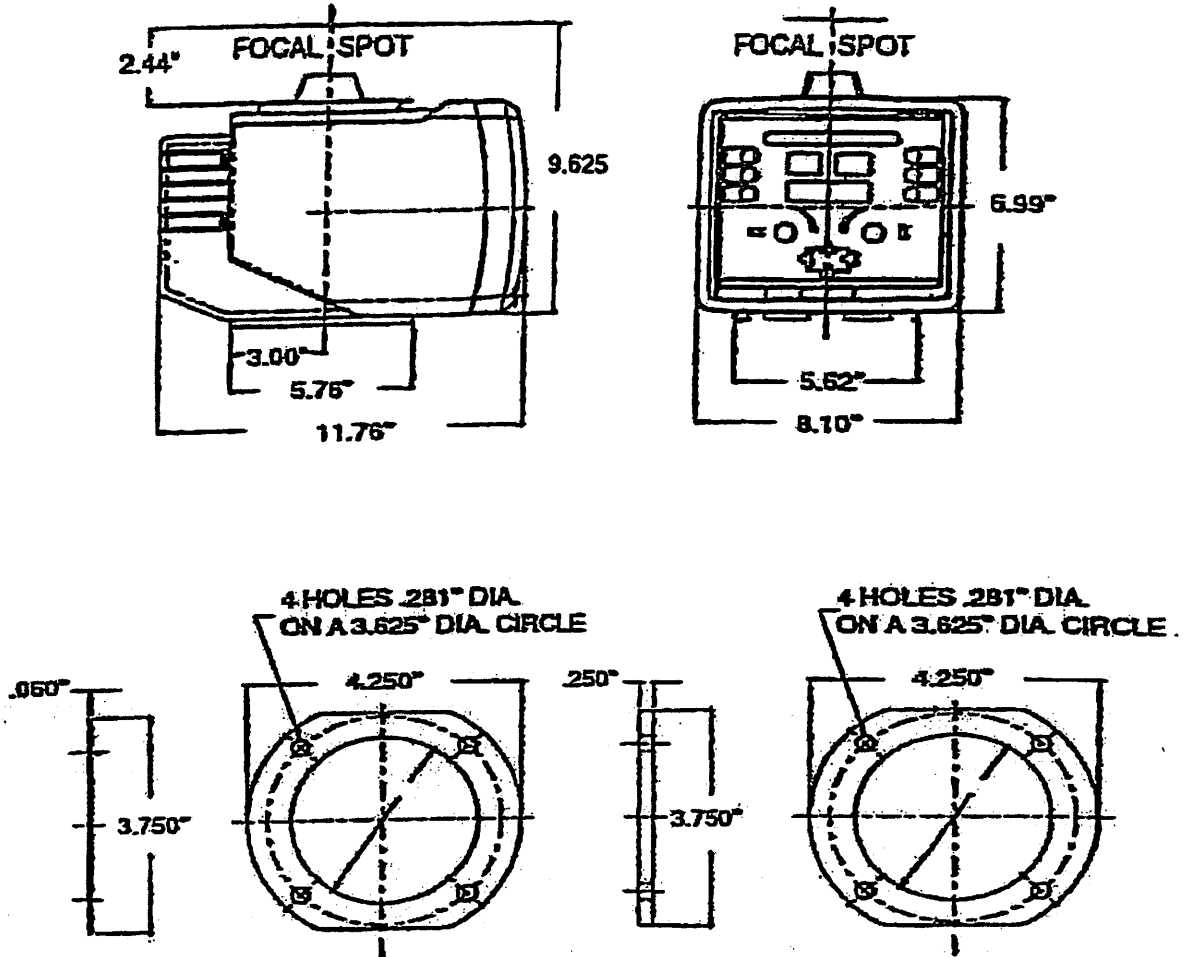

FIGURE 2.2
2. Determine the total thickness of the supplied spacer(s) that must be added to the collimator mounting surface to obtain a focal spot to collimator mounting flange distance of 2-7/16" (2.44 inches, 62 mm) +/- 1/32" (.031 inches, 1 mm). Refer to Figure 2.2. Table 1 in the Appendix provides spacer information for some X-ray tube housings.